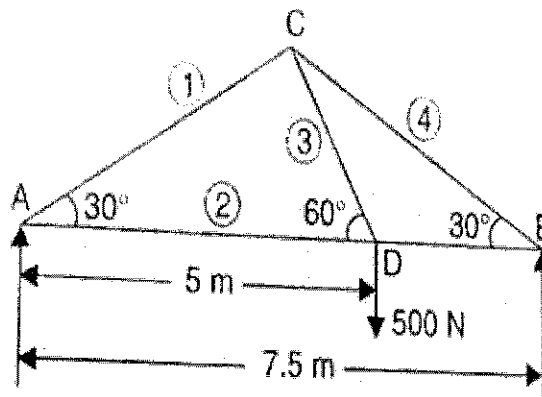

Figure 8
15. Find the member forces of the given truss (Figure 8) by graphical method